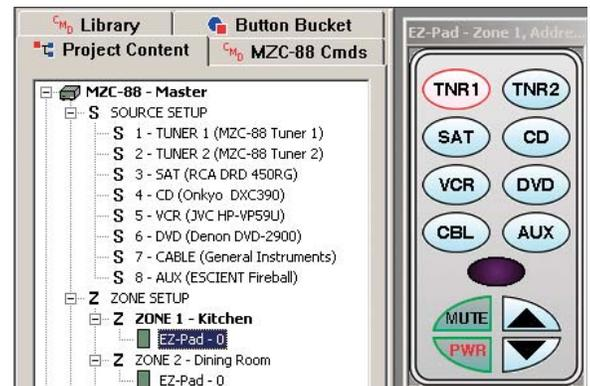

Figure 6
- In the Project Content Window, left click the EZ-Pad in the Zone that is going to be programmed to send RS232 commands from the RSA-1.0. (Zone 1, EZ-Pad-0 as shown in Figure 6.) The EZ-Pad selected will appear on screen.